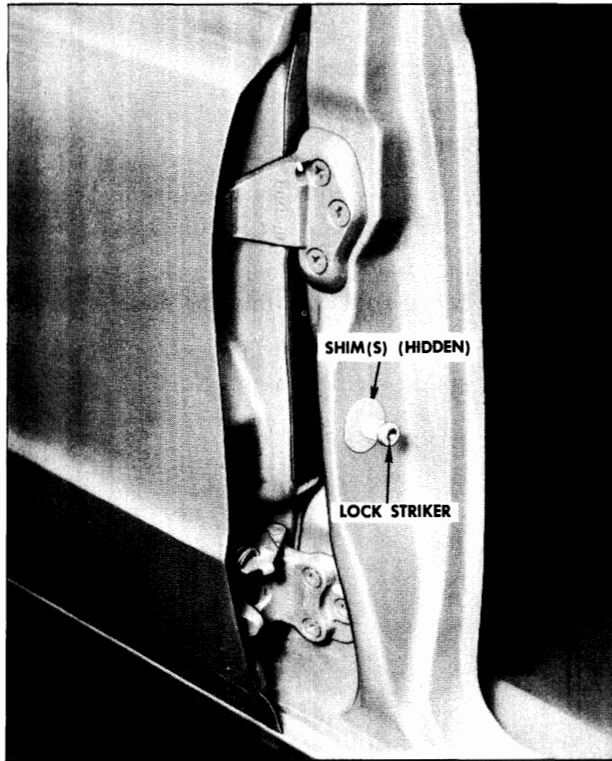

Fig. 12-11 Front Door Lock Striker
2. Using a 5/16" hex head wrench (Allen), remove striker from lock pillar (Fig. 12-11).